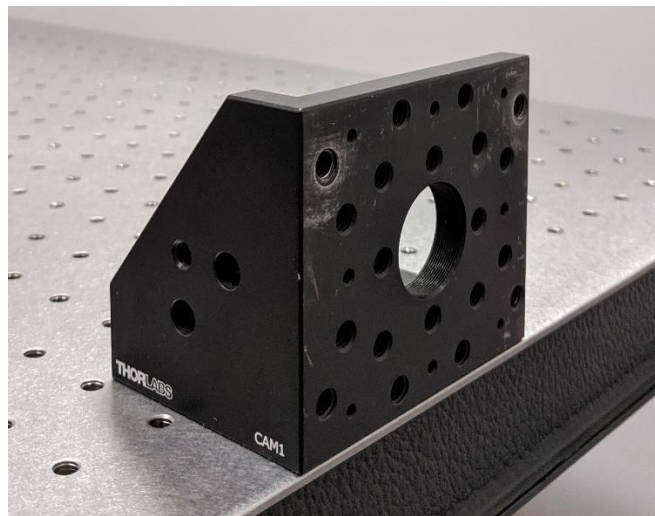

Figure 67: L-bracket Mount Free of Obstruction
2. Ensure the mounting side of the L-bracket mount is free of any obstructions, such as screws or bolts. See Figure 67.